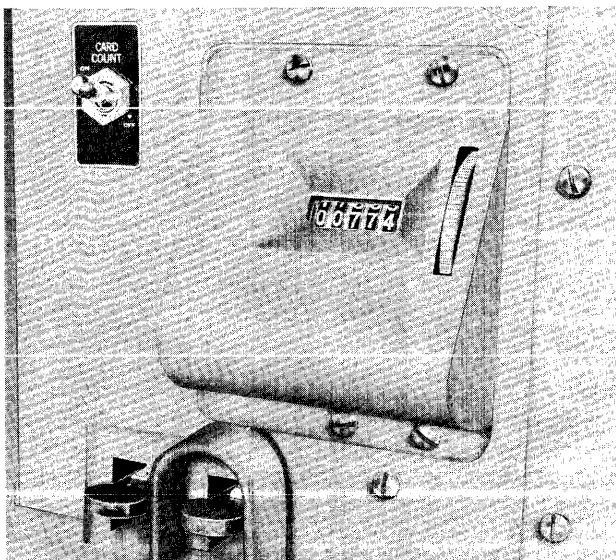

FIGURE 30. TOTAL CARD COUNTER
6. *Total Card Count.* A special electrically operated card counter (Figure 30), which registers 1 for each card passing the brush, may be connected to the sorter. It is mounted so that the dials are in a position for easy reading and manual transcribing of totals. The counter does not affect the normal speed or method of operation of the machine to which it is attached. The maximum capacity of the device is 99,999. This mechanism counts only the total number of cards passing through the machine.